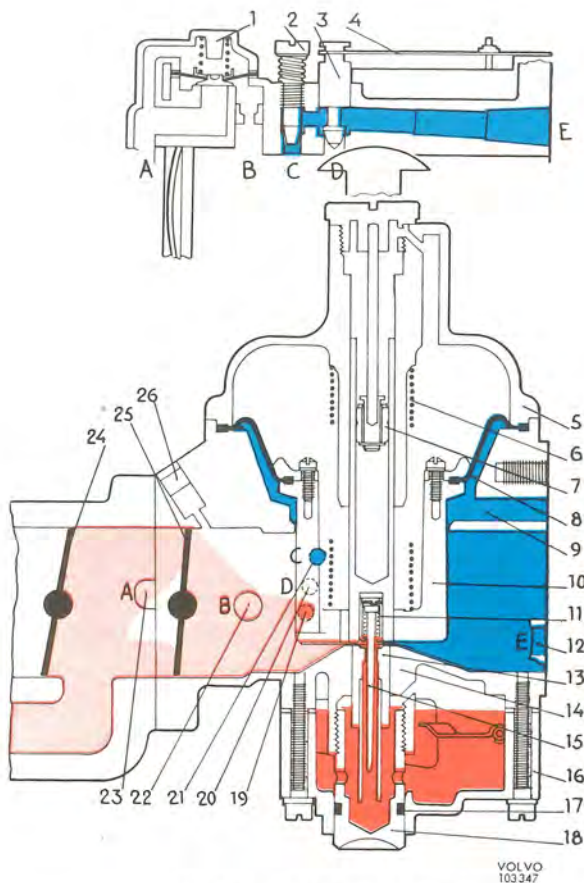
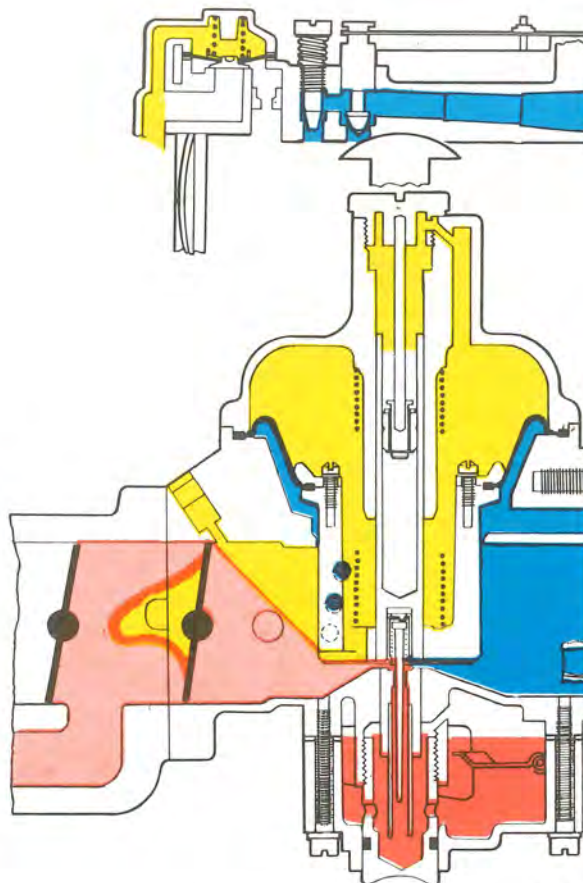

Fig. 2-62. Cold starting, principle
Fig. 2-63. Idling, warm engine
When the engine is idling, the vacuum in the carburettor suction chamber is low and the column between the air valve and the bridge will be small (see Fig. 2-63). At this stage, the thicker section of the metering needle is in the jet and thus only a small quantity of fuel, corresponding to idling requirements, is sucked into the engine. The temperature compensator (Fig. 2-62) is regulated by a bi-metal spring (4) which influences a valves (3). When the engine is hot and the temperature in the carburettor rises, the valve opens and air is supplied to the carburettor venturi to compensate for the increase in the fuel flow, which is obtained due to the alteration in the fuel's viscosity, see Fig. 2-63. Fine adjustment of the engine idling speed can be carried out with the idle trimming screw (2, Fig. 2-62).
nels in the plunger to the suction chamber which is sealed from the main body of the carburettor by the diaphragm. The pressure difference between the underside of the air valve, where there is pressure in the carburettor inlet port, and the upper side of the valve, where there is vacuum, causes the valve to lift from the bridge. This also lifts the tapered metering needle (15, Fig. 2-62), which is attached to the plunger, out of the jet. The effective choke area widens and increases the fuel flow. See Fig. 2-64.
When the air valve (10, Fig. 2-62) lifts, the damper piston (7) is forced against its seat and oil is prevented from flowing past from the upper side the lower side of the damper plunger, this retarding the movement of the valve (10). This temporarily results in a more powerful vacuum above the jet so that the fuel-air mixture becomes for the moment richer.